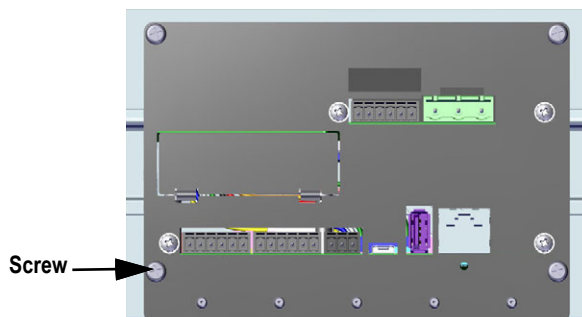

Figure 2-25. Bottom Plate Screw
1. Remove the screw highlighted in Figure 2-25.